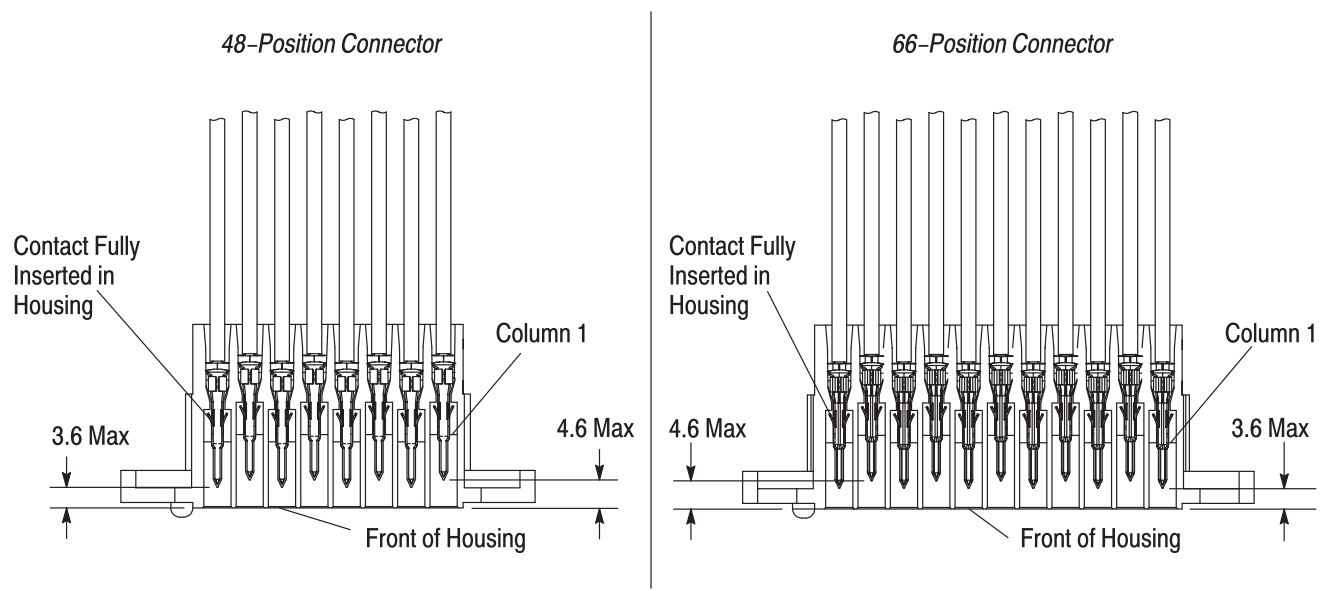

Figure 7
In order to determine if the pin contacts are fully seated in the housing, a dimensional check should be performed on the assembly. All checks should be performed with the information provided in Figure 7. If a contact is determined to not be fully seated, attempt to fully seat the contact. If this cannot be accomplished, attempt to pull the contact out of the housing with a maximum force of no more than 15.6 N [3.5 lbs]. With the contact in hand, visually inspect the contact and housing for damages. If the contact and housing are visually not damaged, reinsert the contact and reinspect according to Figure 7.
***For a 48-Position Connector:** when measuring an odd column (ie. 1, 3, 5, 7), the distance from the front of the housing to the tip of the pin is 4.6 mm maximum. When measuring an even column (ie. 2, 4, 6, 8), the distance from the front of the housing to the tip of the pin is 3.6 mm maximum. See Figure 7.*
***For a 66-Position Connector:** when measuring an odd column (ie. 1, 3, 5, 7, 9, 11), the distance from the front of the housing to the tip of the pin is 3.6 mm maximum. When measuring an even column (ie. 2, 4, 6, 8, 10), the distance from the front of the housing to the tip of the pin is 4.6 mm maximum. See Figure 7.*